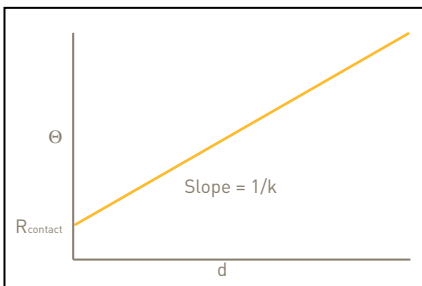

Figure 2. Thermal Impedance vs. Thickness
Thermal impedance can be measured using ASTM D5470 at several clamping forces to generate a pressure versus thermal impedance plot as shown in Figure 2. This type of data can be used to generate information about the ability of a material to conform to surfaces to minimize contact resistance. Care must be taken with this type of data because contact resistance is also highly influenced by surface characteristics. To minimize the impact of test equipment variations, this type of work is best performed with the same test surfaces for all materials being tested.
Equation (6) shows that for a homogeneous material, a plot of thermal impedance [ $\Theta$ ] versus thickness ( $d$ ) is a straight line whose slope is equal to the inverse of the thermal conductivity and the intercept at zero thickness is the contact resistance shown in Figure 2. Thickness can be varied by either stacking up different layers of the material or by preparing the material at different thicknesses.